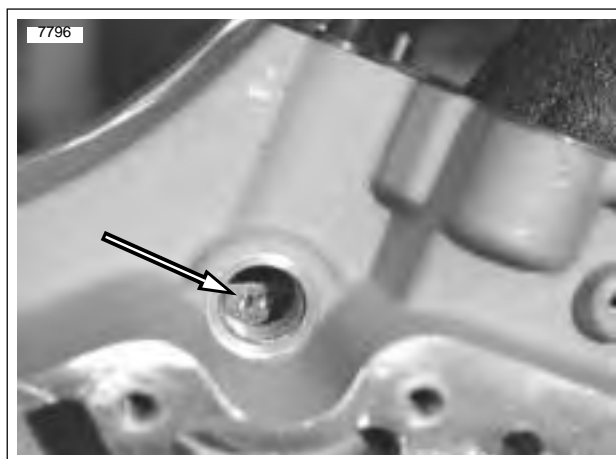

Figure 1-41. Advance Timing Mark for Dynamic Ignition Timing
6. See Figure 1-41. Timing light will flash each time an ignition system spark occurs. Aim timing light into timing inspection hole. The advance timing mark (two dots) should be centered in timing inspection hole. If this is the case, ignition timing is properly adjusted. Go to Step 11. If timing mark is not centered or is not visible in the timing inspection hole, see to Steps 7-12.
9. With timing light aimed into inspection hole, rotate module plate until advance timing mark is centered in timing inspection hole as shown in Figure 1-41.